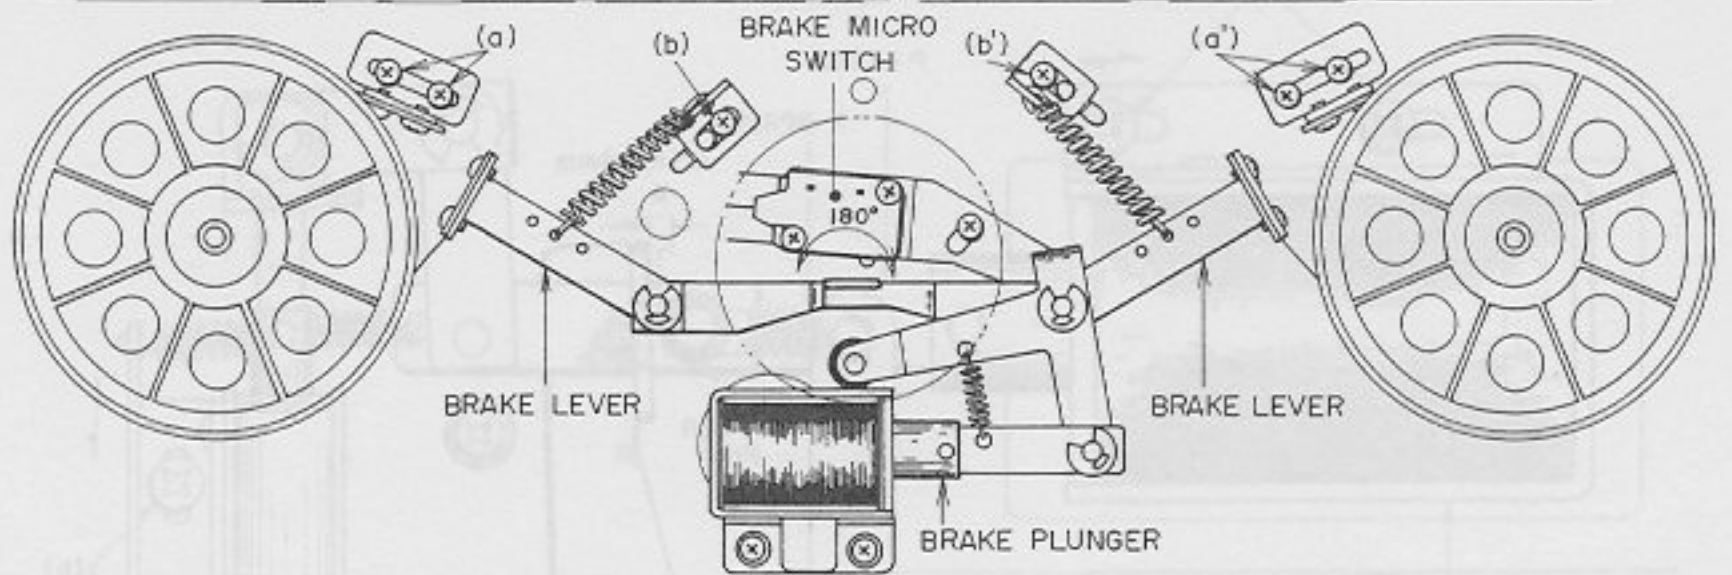

Fig. 15
5. BRAKE BAND POSITION ADJUSTMENT AND BRAKE TENSION ADJUSTMENT (Refer to Figs. 15 to 17)